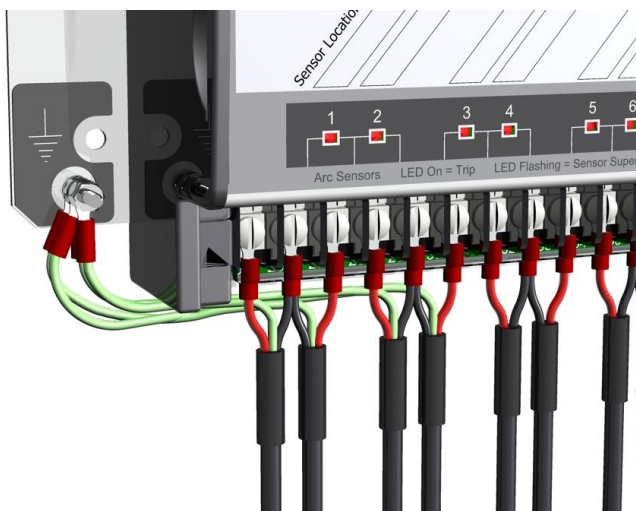

Figure 29: 1S30 sensor wiring using shielded cables
M3 earth studs with nuts and lock washers are provided on the 1S24 chassis in two (2) positions - one to the left of terminal 1 and one to the right of terminal 24 - to allow connection of the optional 1S30 sensor cable shields. Refer to figure 29 for connection details.